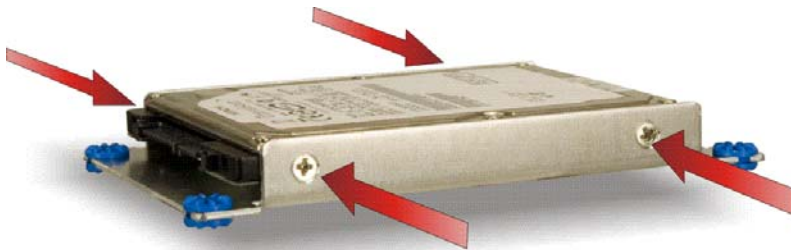

Figure 3-8: AF-12A-LX HDD Retention Screws
Step 7: Attach the HDD brackets to the HDD. To do this, align the four retention screw holes in the both sides of the HDD bracket with the retention screw holes on the sides of the HDD. Insert four retention screws into the HDD bracket (**Figure 3-8**).